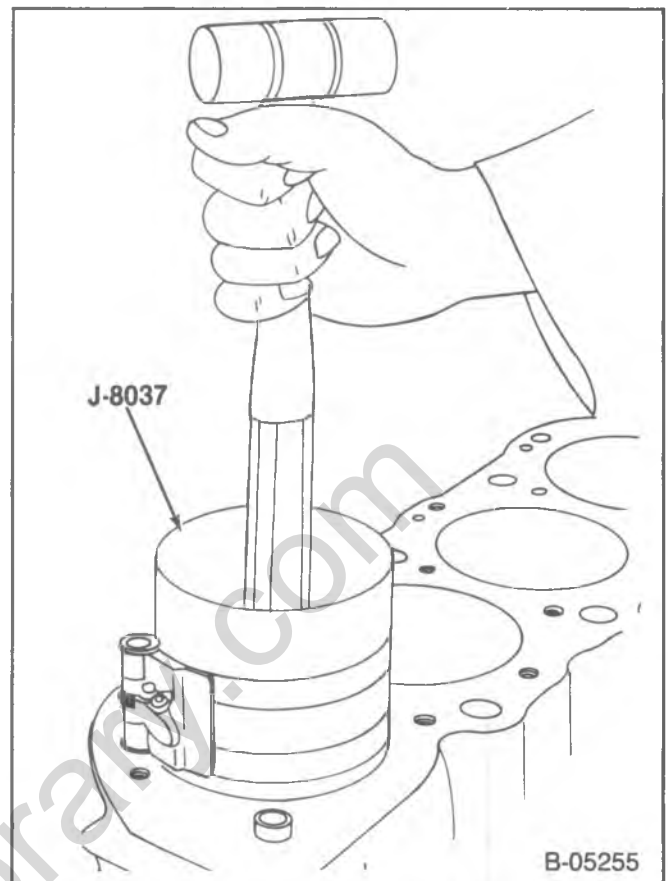

Figure 32—Installing The Piston
- Without disturbing the ring end gap location, install J-8037 over the piston (figure 32).